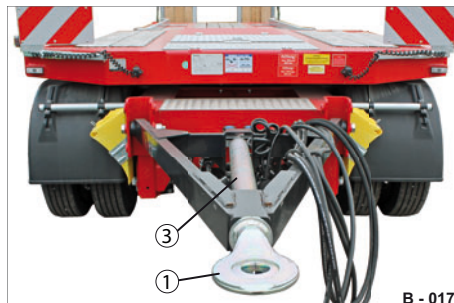
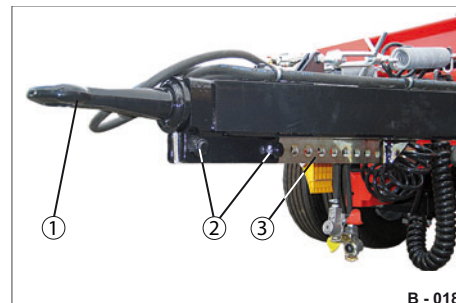

Fig. 30 Drawbar - variety 2
Fig. 31 Drawbar - variety 2 (adjustment)
- ▶ Disassemble the screw connections (Fig. 31/2).
- ▶ Slide adjustment tube in/out (Fig. 30/3) with the towing eye (Fig. 30/1; Fig. 31/1) to the required length.
- ▶ Assemble the screw connections with self-locking hexagonal nut in the adjustment tube rod (Fig. 31/3).